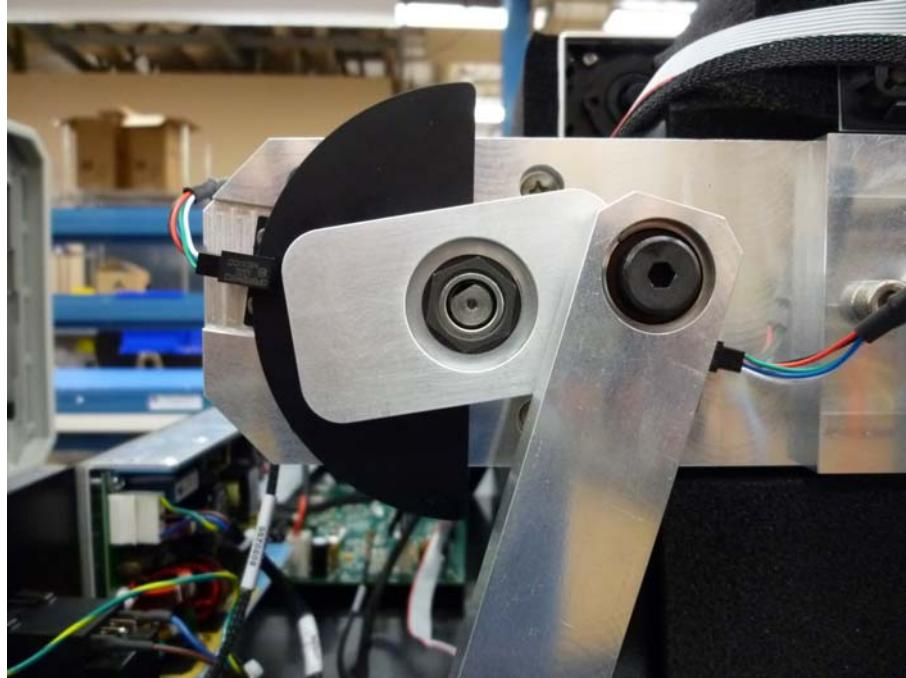

Figure 34
4. When racks are moving downwards, left Optical Sensor is kept interrupted (**Figure 34**).